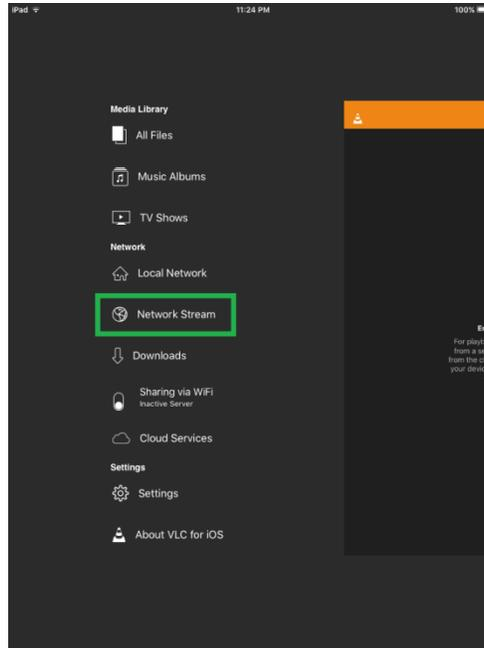

Figure 16. VLC Application Network Stream Tab
- Navigate to the Network Stream tab, as shown in Figure 16.